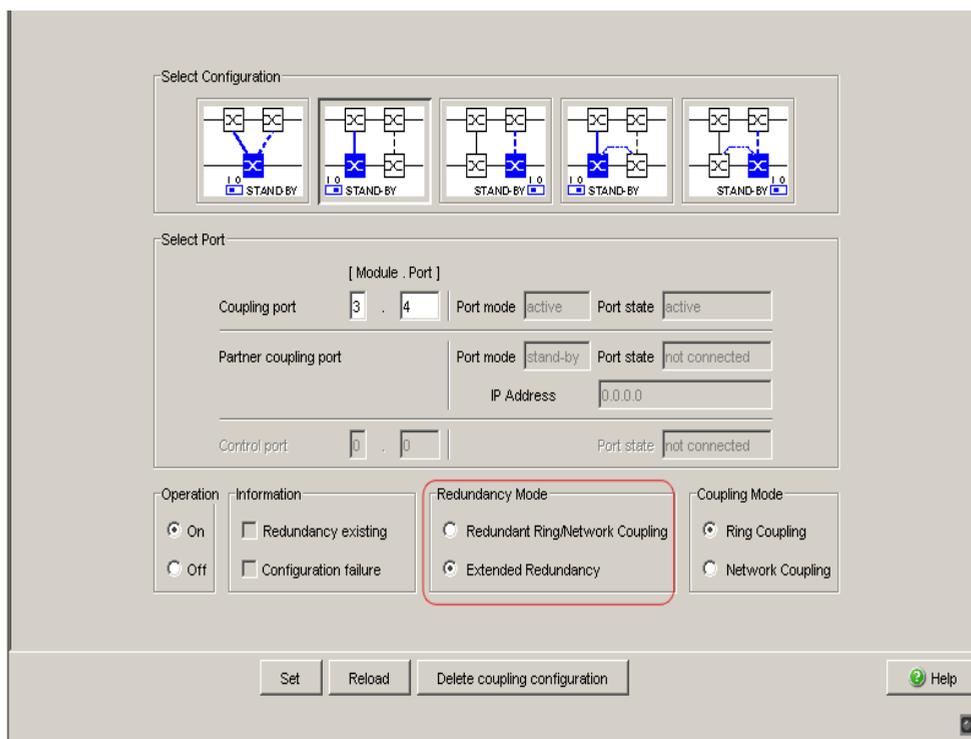

Figure 30: Selecting the redundancy mode
- In the “Redundancy Mode” frame, select (see fig. 30)